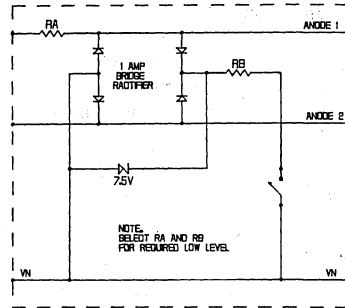

Fig.11 TWO LEVEL BRIGHTNESS CONTROL
2. Day/night brightness (two level) Fig.11